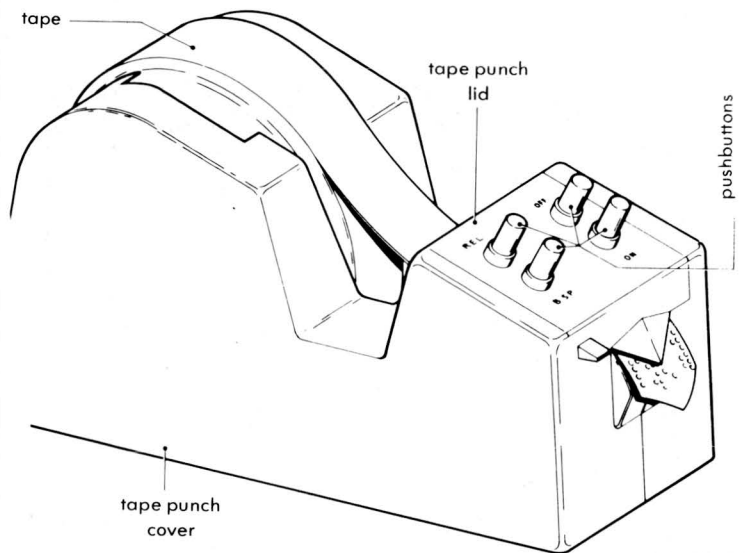

Figure 16 Tape punch
- Step 3 Hold down the REL button on the punch control panel and feed the end of the tape through the punch as shown in Figure 16.